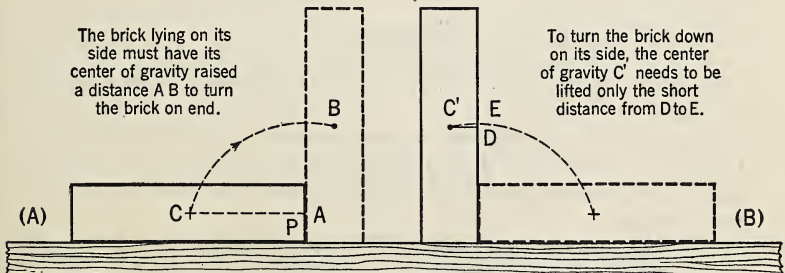

FIG. 180. To stabilize an object we may broaden its base or lower its center of gravity.
without first raising its center of gravity. If slightly tipped, the object tends to return to its former position. The bricks shown in Fig. 180 are both in stable equilibrium, but their degree of stability differs. To overturn block (A) about the edge P , the center of gravity C must be raised to the point B . When the center of gravity passes beyond the vertical line BA , so that it falls outside the area included within the base, the brick will be overturned and fall to the position shown by the dotted lines. The same brick, standing on end, Fig. 180B, is also in stable equilibrium, but it is not so hard to overturn it as when it lies flat on its side. In the position shown in Fig. 180A, the center of gravity must be lifted the vertical distance BA before it can be overturned; in the position shown in Fig. 180B the center of gravity must be lifted from D to E before it can be overturned. BA is much greater than ED ; hence the greater stability when the block lies on its side. *The stability of an object may be increased by enlarging the base and by having the center of gravity as low as possible.*